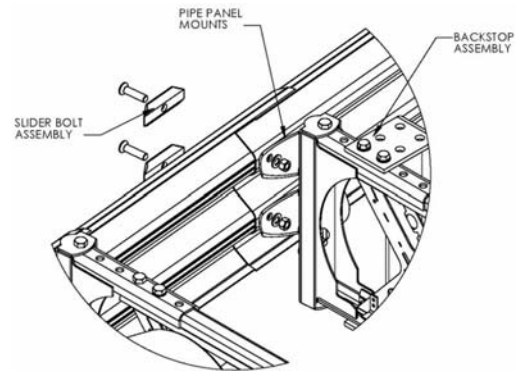
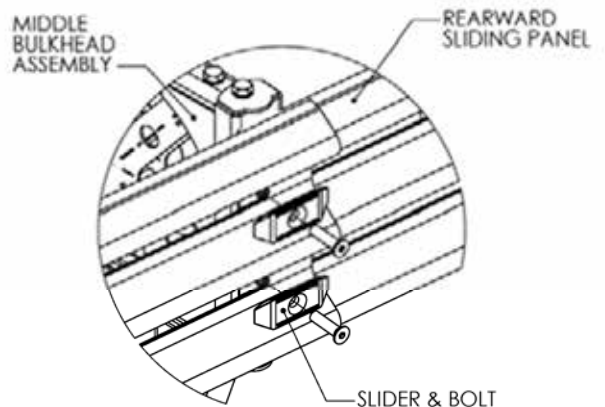

Figure 22 Attach Rear Panel
Figure 23 Attach Side Panels
Install the panels from back to front staggering from each side. Place the End Panels first. While holding the End Panel in place, lap the forward Sliding Panel over it and bolt through the slot, End Panel, and Pipe Panel Mount (Figure 22). Leave the nuts of the Slider Bolts loose and perform on both sides. Lap the next forward Sliding Panel and bolt through the slot, hole set in rearward Sliding Panel, and bulkhead. Leave the Slider Bolt nuts loose and progress forward alternating sides (Figure 23). If the bay requires nested panels, perform procedure with (2) panels, one nested inside the other.